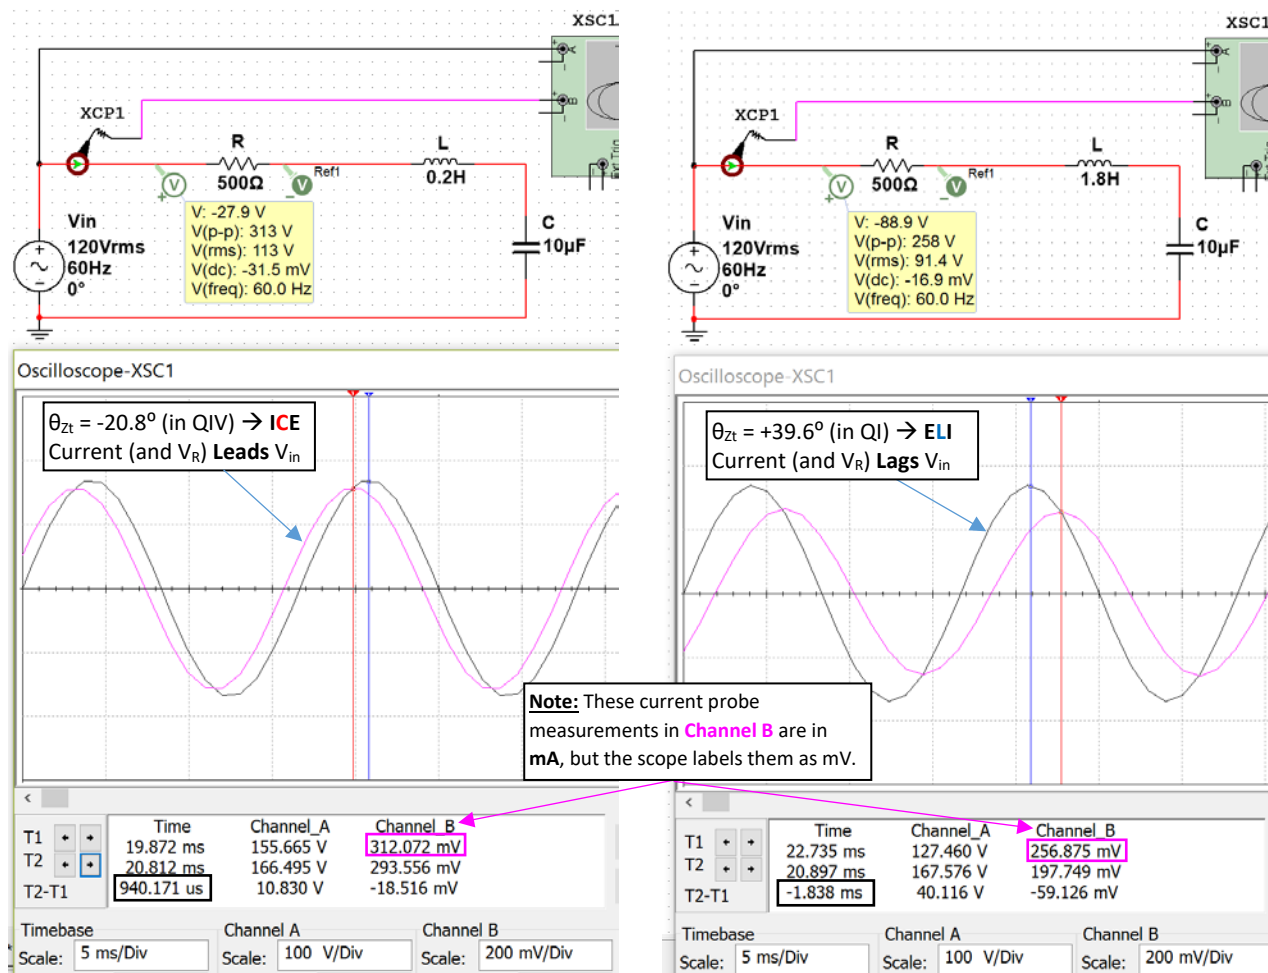

Figure 3.10: Current (Pink) and V_{in} (Black) Plots for Case 1: $L = 0.2 \text{ H}$ (Left) and Case 2: $L = 1.8 \text{ H}$ (Right)
* Multisim Current Verification for Case 1 and Case 2 current calculations (See Figure 3.10 below).